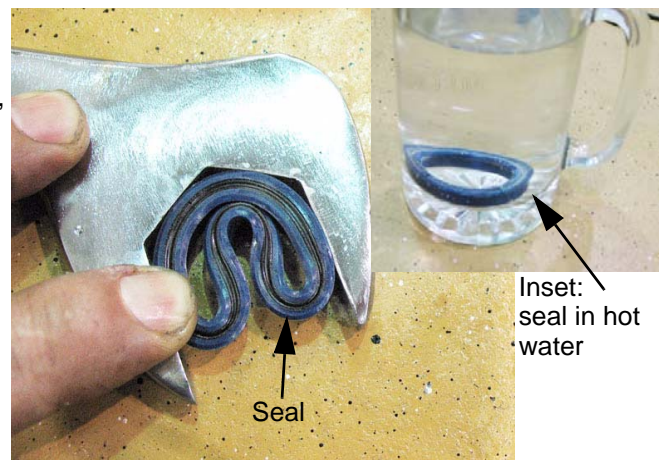

Figure 5.12
- 2.30. Press the new seal into position with the lip facing away from the threaded end of the end cap, then let it expand into the groove that it will ride in. See Figure 5.12.